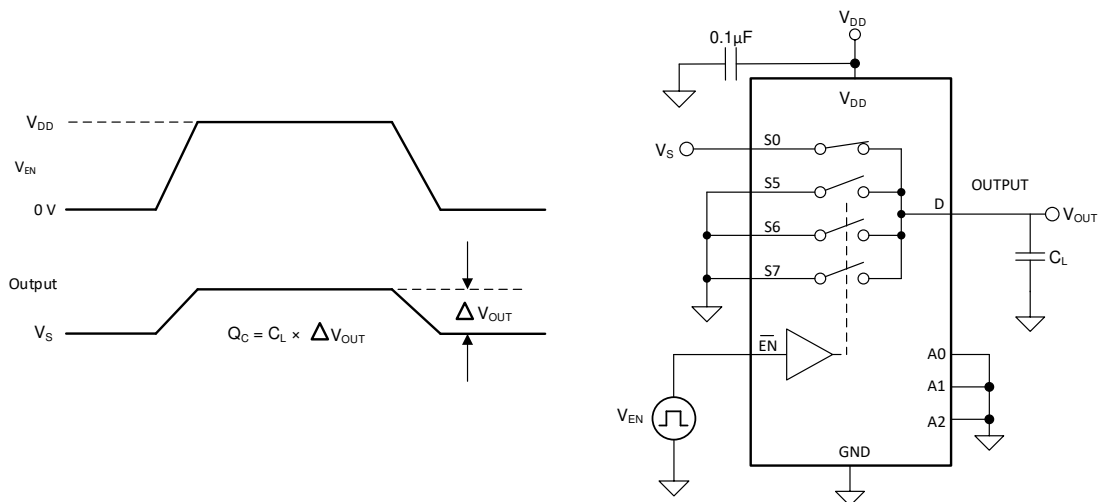

Figure 8-7. Charge-Injection Measurement Setup
The TMUX1308-Q1 and TMUX1309-Q1 device have a transmission-gate topology. Any mismatch in capacitance between the NMOS and PMOS transistors results in a charge injected into the drain or source during the falling or rising edge of the gate signal. The amount of charge injected into the source or drain of the device is known as charge injection, and is denoted by the symbol Q_C . Figure 8-7 shows the setup used to measure charge injection from source (Sx) to drain (D).